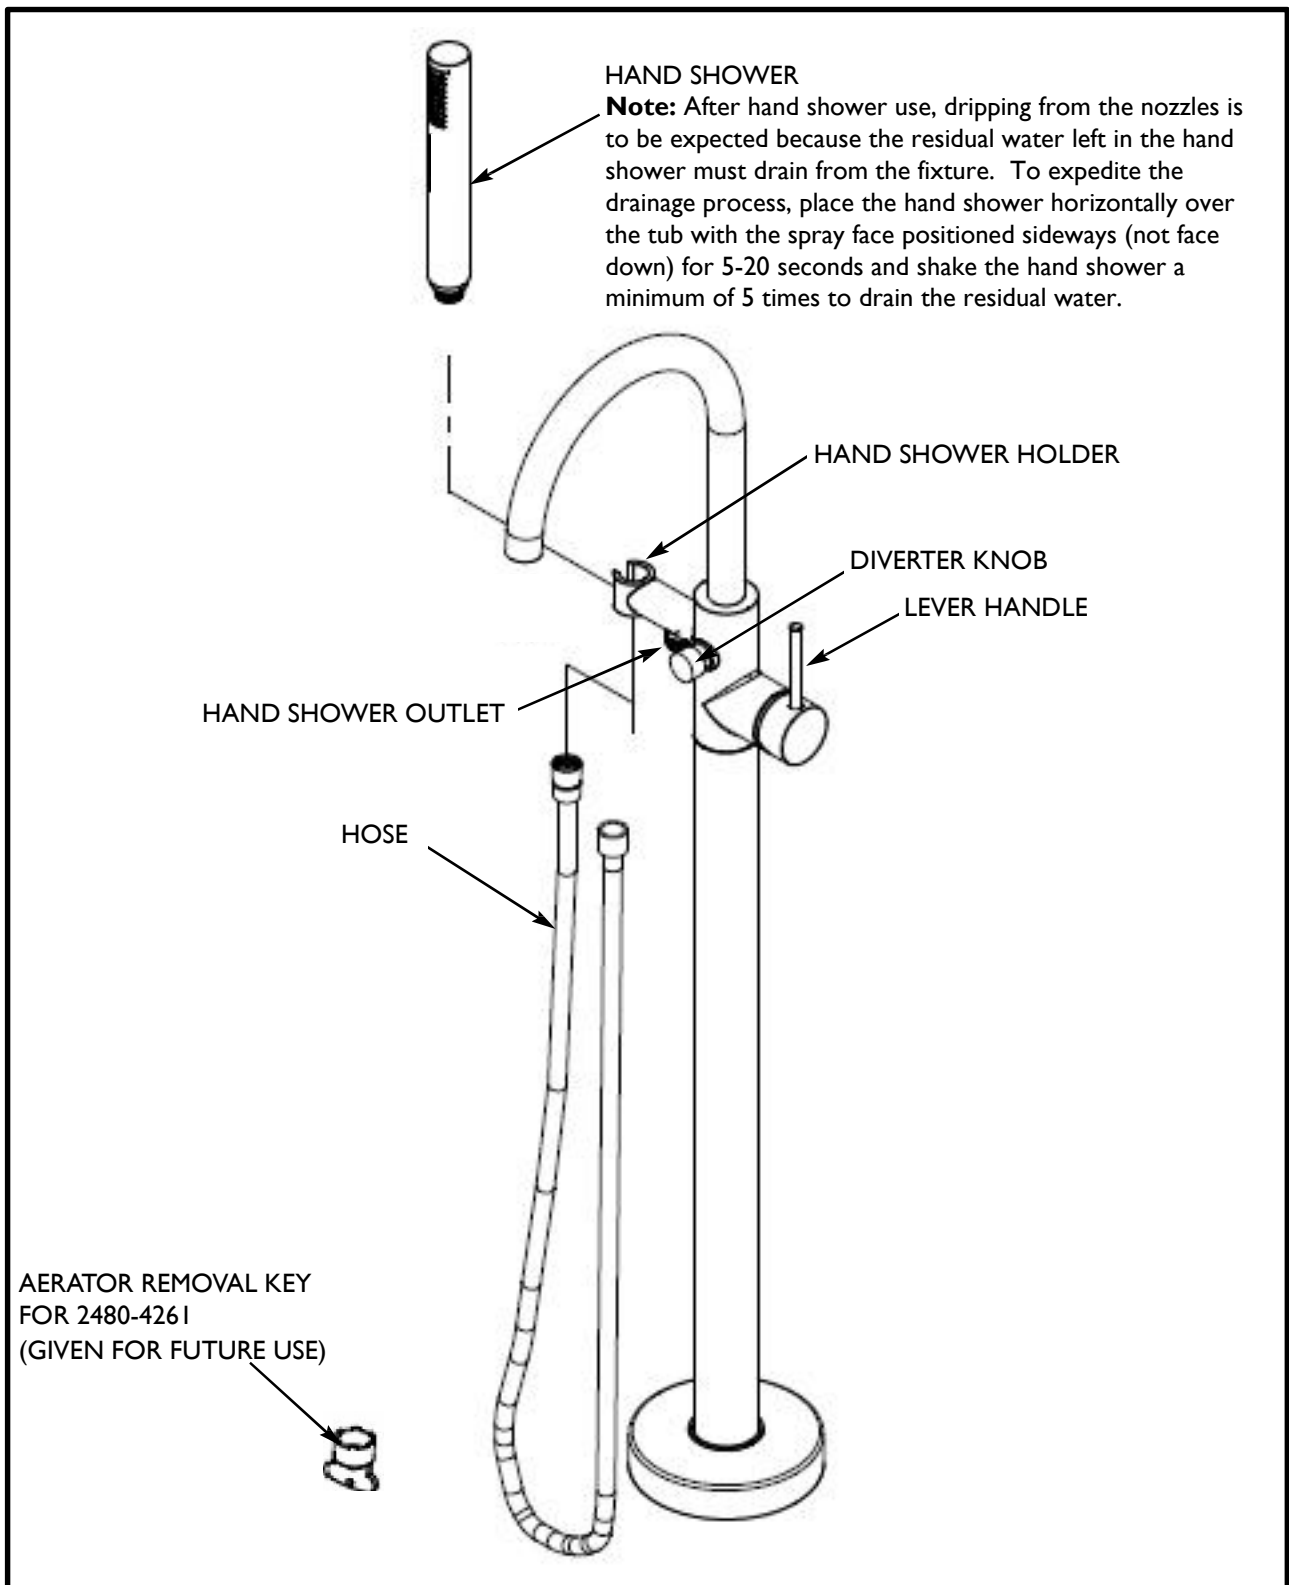

Figure 8
STEP 5: Install the Hose to the Hand Shower and the Tub Filler: Figure 8 (next page) illustrates installing one end of the HOSE to the HAND SHOWER OUTLET located under the HAND SHOWER HOLDER. Attach the other end of the HOSE to the HAND SHOWER until both are secure.